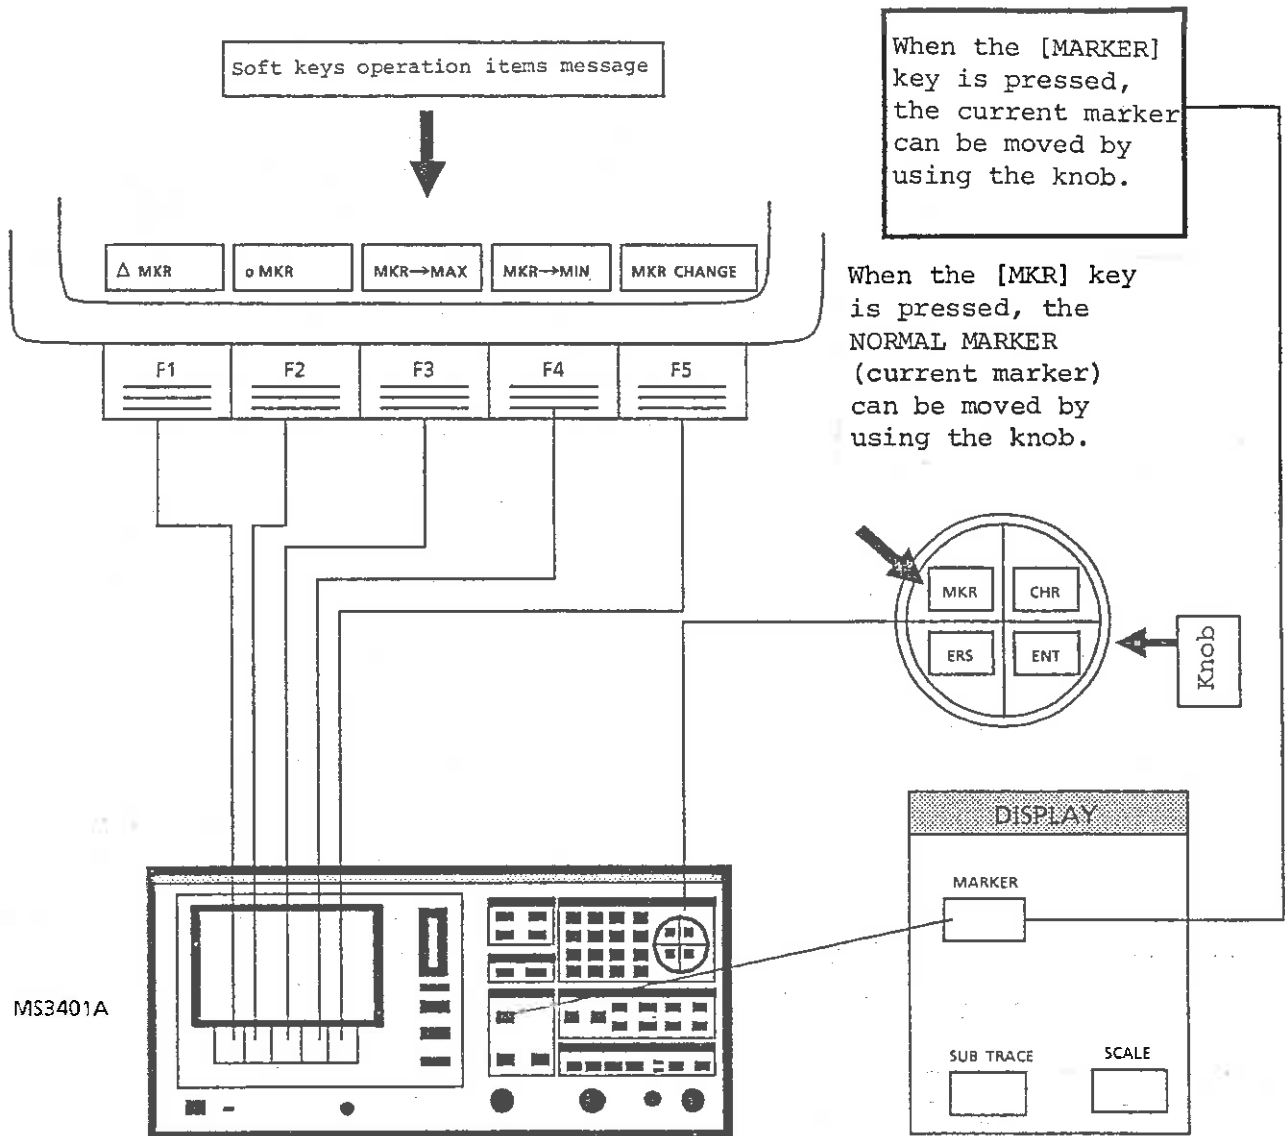

Fig. 5-3 Marker Function Setting
When the [MARKER] key is pressed, the soft keys operation item messages corresponding to soft keys [F1] to [F5] are displayed at the bottom of the CRT as shown in Fig. 5-3.
2. Conversely, to move the NORMAL MARKER (current marker) without stopping the  $\Delta$ MKR and 0MKR functions, press the [MKR] key on the knob shown in Fig. 5-3, and then turn the knob.